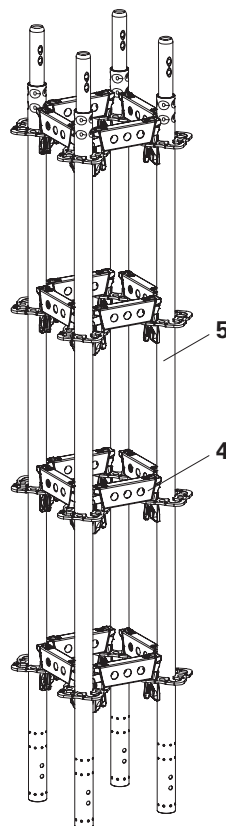

Fig. A1.03
1. Assemble Standards UVR-2 (5) and Horizontal Ledgers UH-2 25 (4) to the required height to form a prop or unit. Use a 500 g hammer to secure all wedges with a jarring blow (Fig. A1.03).